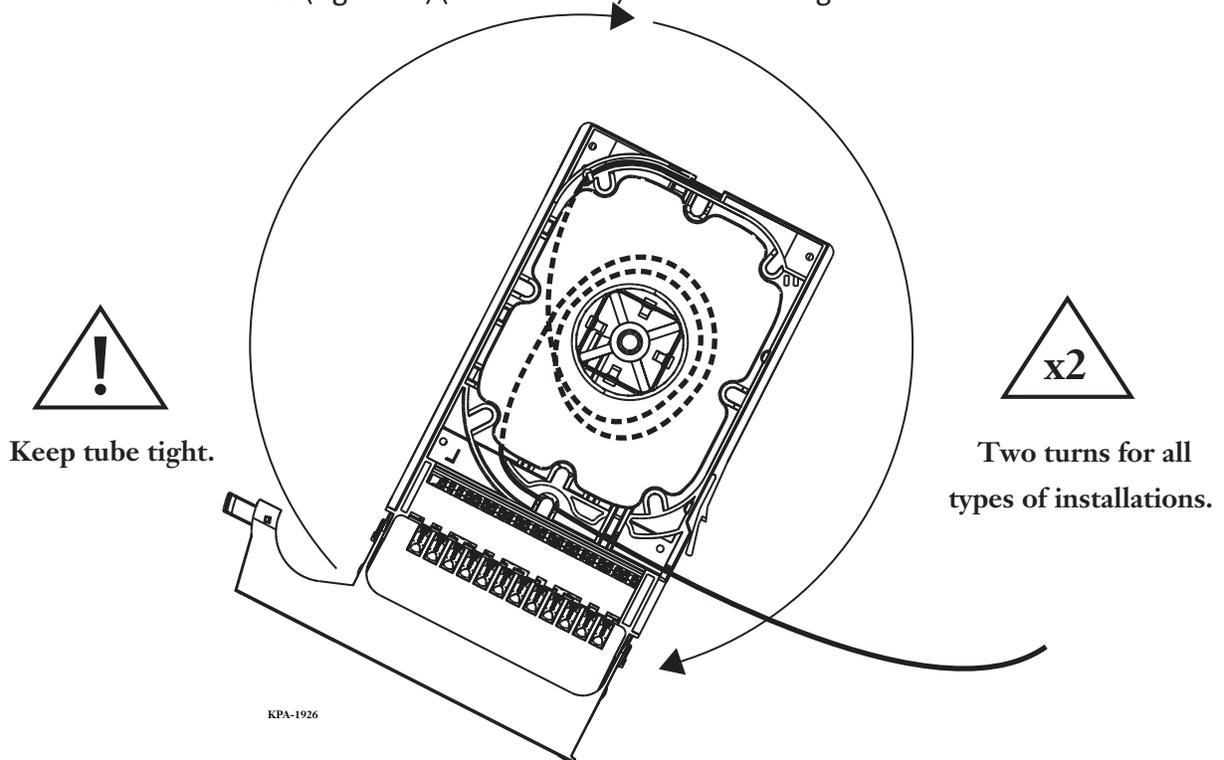

Figure 40
Step 4: Rotate the MODULE (Figure 40) (NOT the cable) two full 360-degree turns.